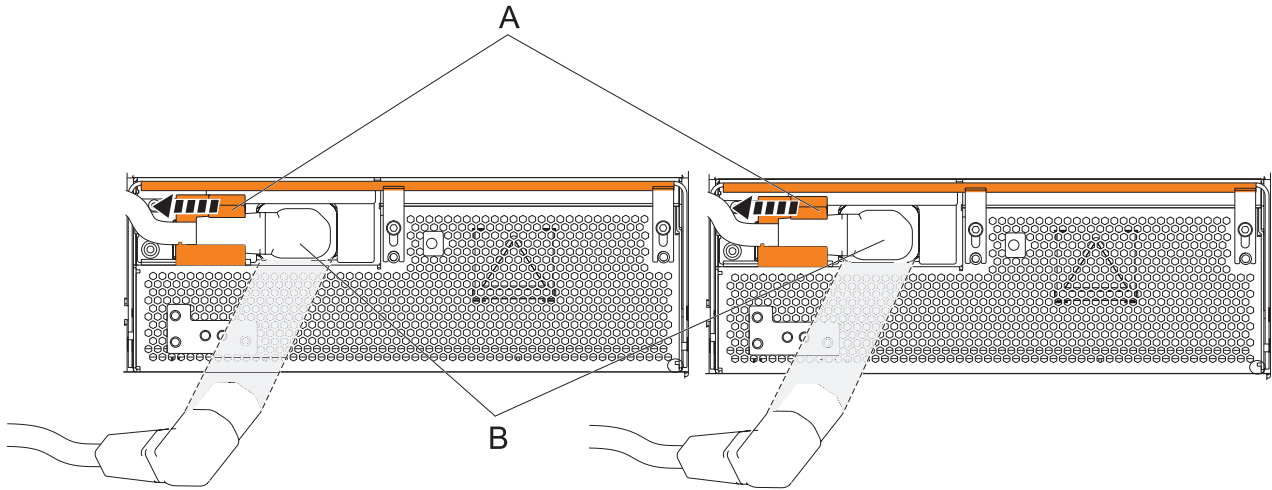

Figure 106. Disconnecting the OCA power cords
- a. Slide the power cord holders **(A)** to the left, located on the front of both the OCAs. See Figure 106 on page 110.